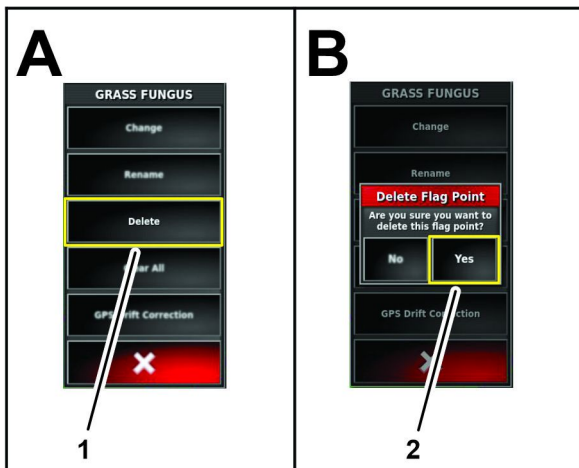

Figure 85
- In the edit flag menu, press the DELETE icon (Figure 85).
- In the delete flag point dialog box, press the YES icon (Figure 85).